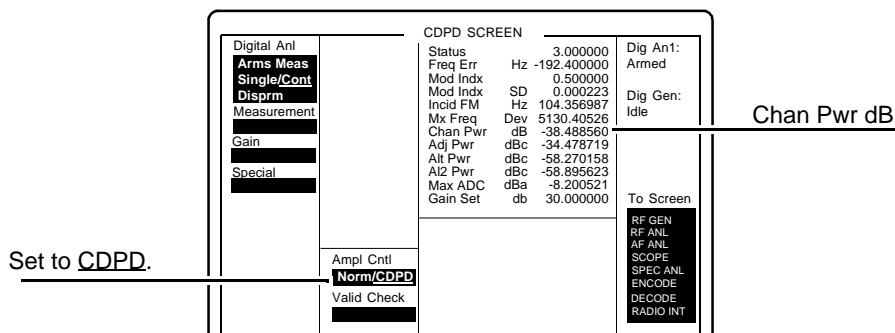

Figure 63
- b. Change **Ampl Cntrl** to **CDPD**, see figure 63.